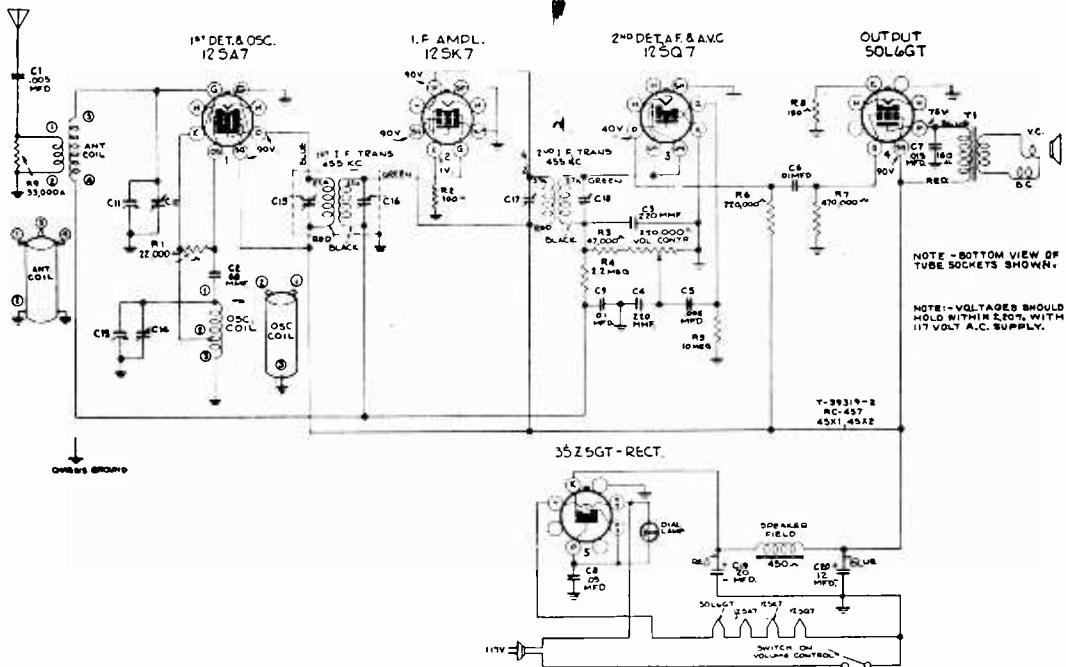

Fig. 2
**Superheterodyne Signal Circuits.** As in the case of the a.c.-d.c. T.R.F. receivers, the signal circuits of a universal superheterodyne are quite simple. The typical circuit shown in Fig. 2 has a frequency converter stage, an i.f. stage, a combination second detector first a.f. and a.v.c. stage followed by a single power output stage. The frequency converter tube is usually a pentagrid converter such as a 12A8 or 12SA7 while a super control pentode such as a 12K7 or 12SK7 is generally used in the i.f. stage. The second detector, first a.f. and a.v.c. tube is usually a 12Q7 or 12SQ7. A 35L6 or 50L6 is most often used in the power stage. It is seldom that you will find the 6 volt equivalents such as the 6A8, 6K7 or 6Q7 in a.c.-d.c. superhet receivers. Low filament
In Fig. 2 an antenna type of R.F. transformer is employed to feed the signals, picked up by the "hank" antenna, to the 12SA7. Often a loop is used as the pick-up, the loop winding replacing the secondary of the antenna coil. A single turn around the loop may be used to couple the loop to an outside aerial and ground, if this form of pick-up is desired, although in most cases the loop itself suffices.
Note particularly in Fig. 2 that the screens and plates of the converter and i.f. tubes receive the same d.c. voltage. The screen voltage is not reduced as it is in a straight a.c. operated set.